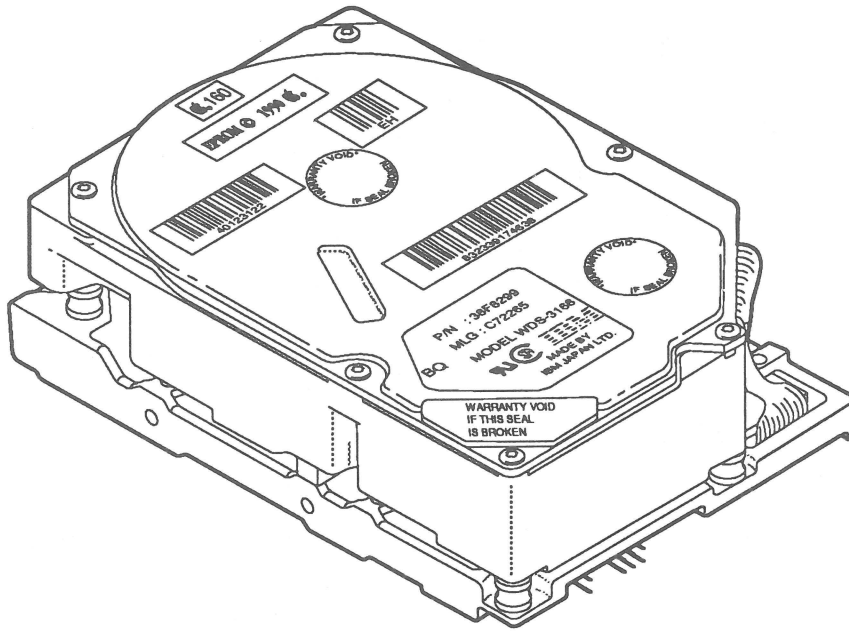

FIGURE 4
(Figure 4)
□ **HARD DISK ASSEMBLY (HDA) – 3.5-INCH 160 MB (Figure 4)**